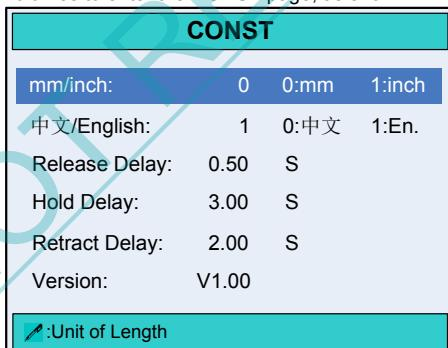

Figure 3-2 The **CONST** page
Step 2 Press two times to enter the **CONST** page, as shown in Figure 3-2.